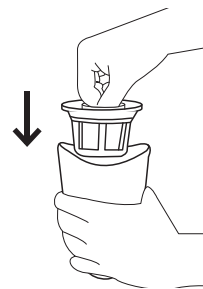

Figure 9
6. Reassemble the elements in the container (Fig. 9).